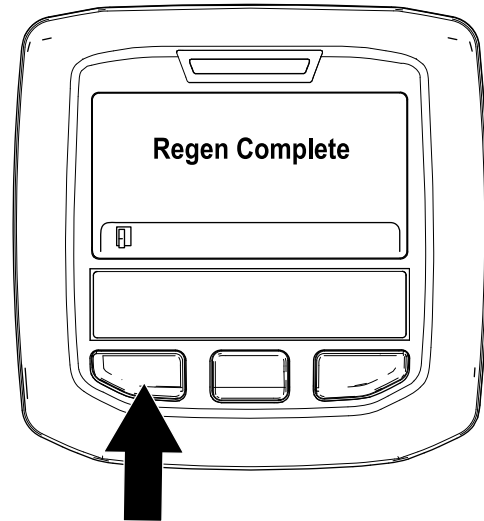

Figure 51
9. The parked regeneration is complete when the "Regen Complete" message displays in the InfoCenter. Press the left button to exit to the home screen (Figure 51).